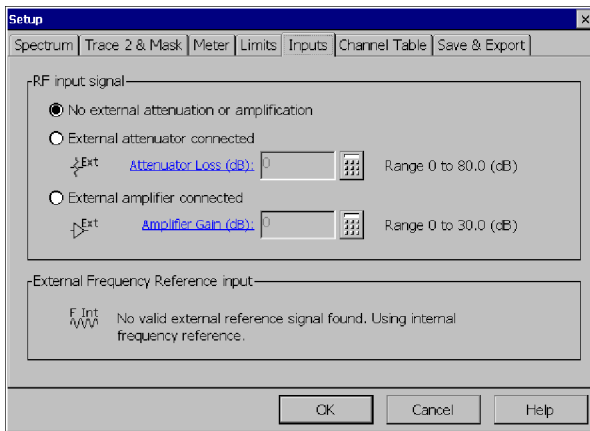

Figure 2-8: Changing input settings
- b. Tap the **Inputs** tab. See Figure 2-8.